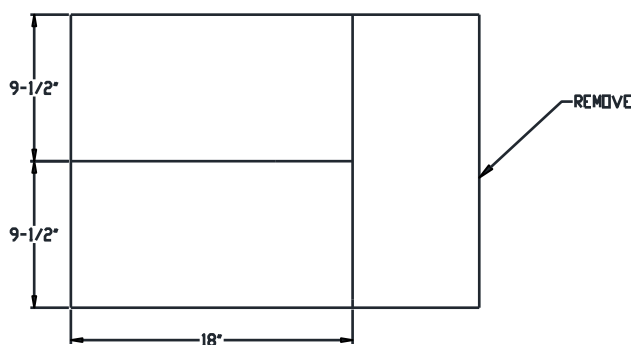

Figure 14. Center Belting Cut Dimensions
6. Cut Center Belting (2) into three pieces. Use the dimensions specified in Figure 14.